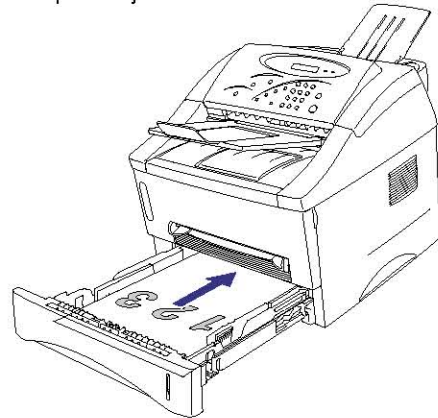

Fig. 2-24
- (1) Select the required manual duplex printing mode from the driver.
- (2) The printer will automatically print all the even numbered pages on one side of the paper first.
- (3) Remove the printed even numbered pages from the output tray.
- (4) Re-insert them into the paper cassette, loading the paper with the side to be printed (blank side) face down, and the top edge toward you. Follow the instructions on the computer screen. (Fig. 2-24)
- (5) The printer will now automatically print all the odd pages on the reverse side of the paper.